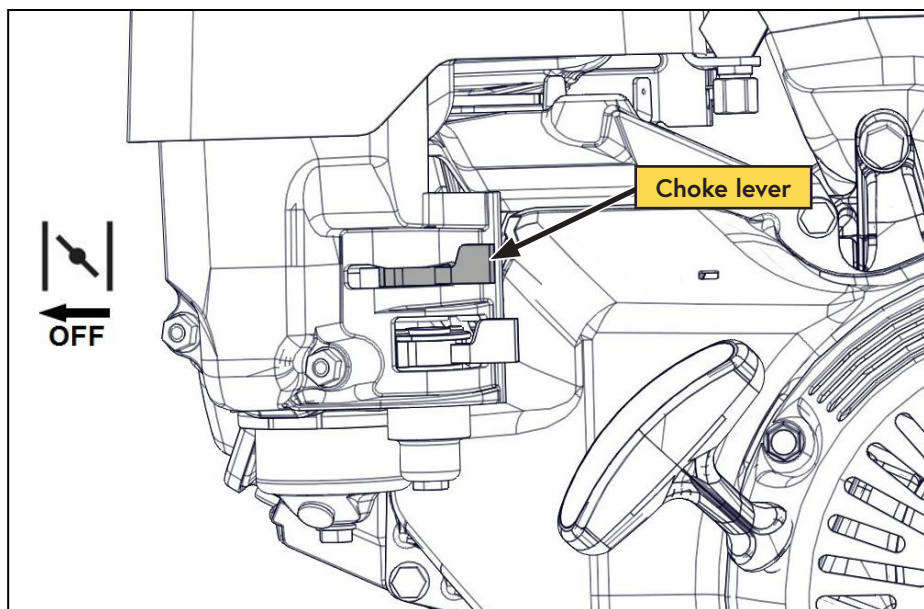

Figure 16 — Choke
- 6) Once the engine is running, gradually open the choke by moving the choke lever to the right as the engine warms up (Figure 16).